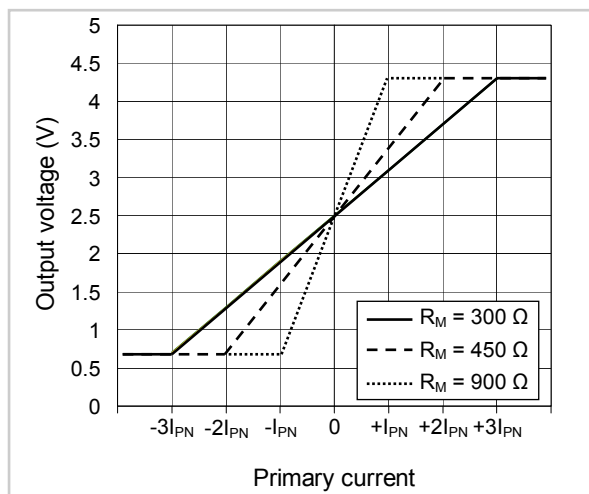

Fig. 2: Characteristic of primary current to output voltage according to different  $R_M$ .  $V_{refout} = 2.5\text{ V}$ .
3) Output voltage is scaled by changing  $R_M$  but not beyond these limits. See Fig. 2.
- 4)  $R_M > 300\ \Omega$ : reduces  $I_{PR}$  but increases  $G_V$ . See Fig. 2.